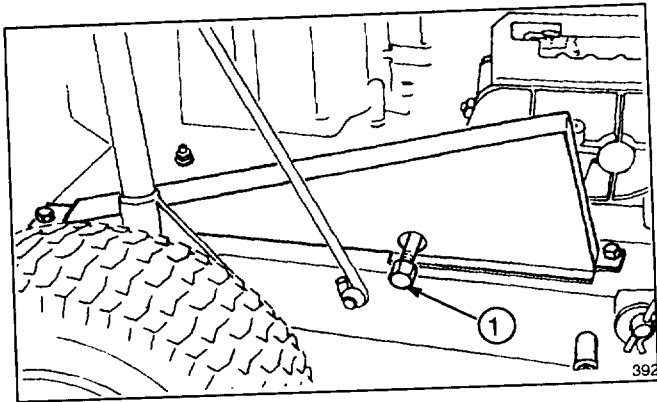

Figure 11
5. Remove drain cap (Fig. 11).